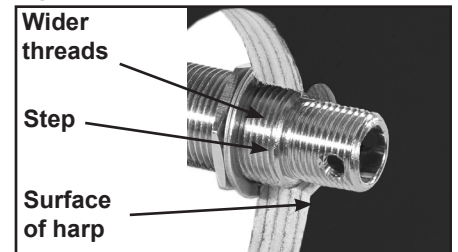

Figure 11b – Jack installation
2. Reach inside the harp and carefully push the end of the jack up through the jack hole in the back of the harp. Adjust the inner nut so the step to the wider threads sits about $\frac{1}{16}$ " below the outer surface of the harp body (*see figure 11b*).